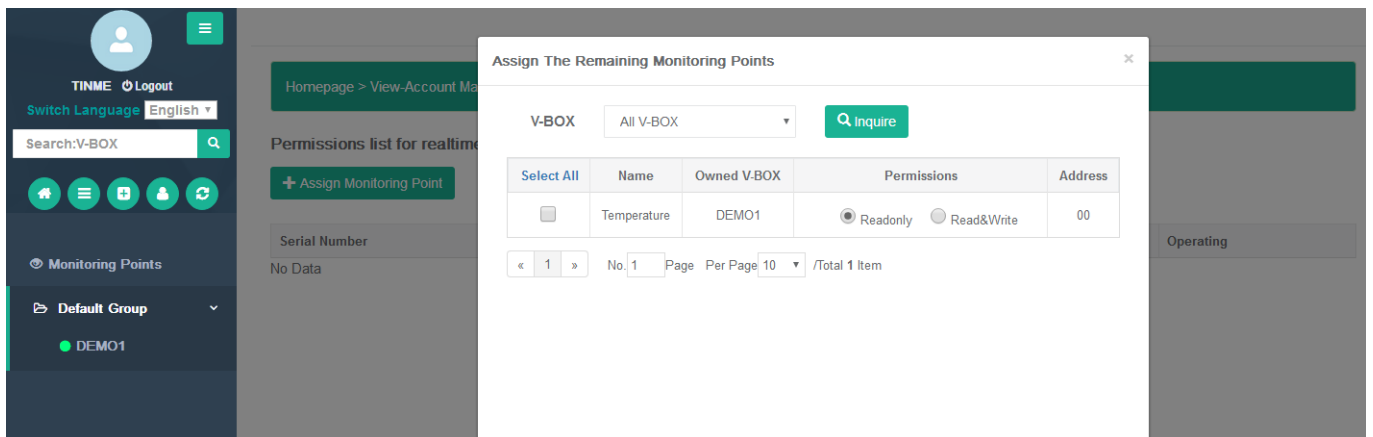

Figure 5-5
(3) Enter “Monitoring point authority list” interface, User can manage the monitoring points authority of selected sub-screen in the interface. As shown in Figure 5-5, for example to modify the authority as “Read Only” or “Read-write”; You can remove the monitoring points from the monitoring account, After the association is removed, some permissions (i.e. real-time, history and alarm) of the monitoring account to the monitoring point will be deleted.